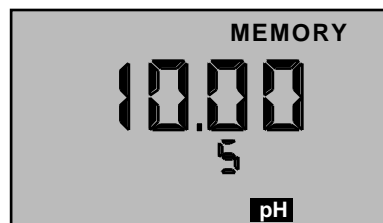

Figure 4
- "MEMORY" will appear and the temperature display will be momentarily replaced by a number (1-20) showing the position of the record. Figure 4 shows a reading of 10.00 pH stored in memory record #5.